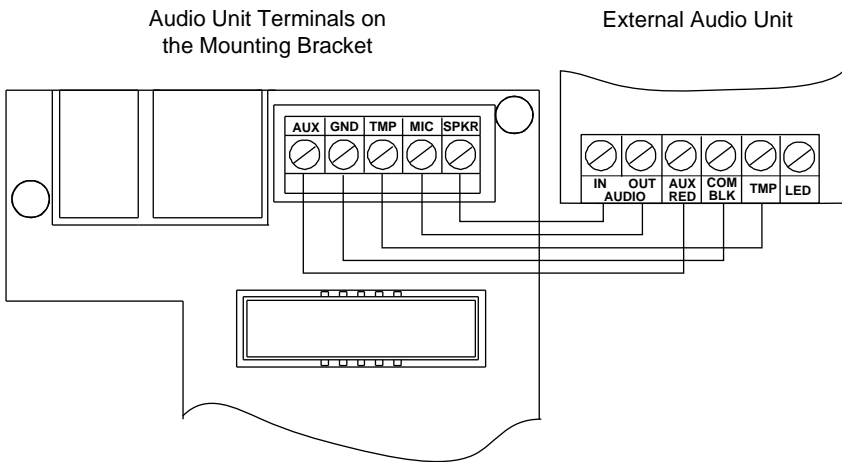

Figure 10: Wiring the External Audio Unit to Agility
1. Wire the Audio unit to the Agility as displayed in the Wiring Diagram described in Figure 10. The terminals for wiring the Audio Unit to the Agility are located on mounting bracket.